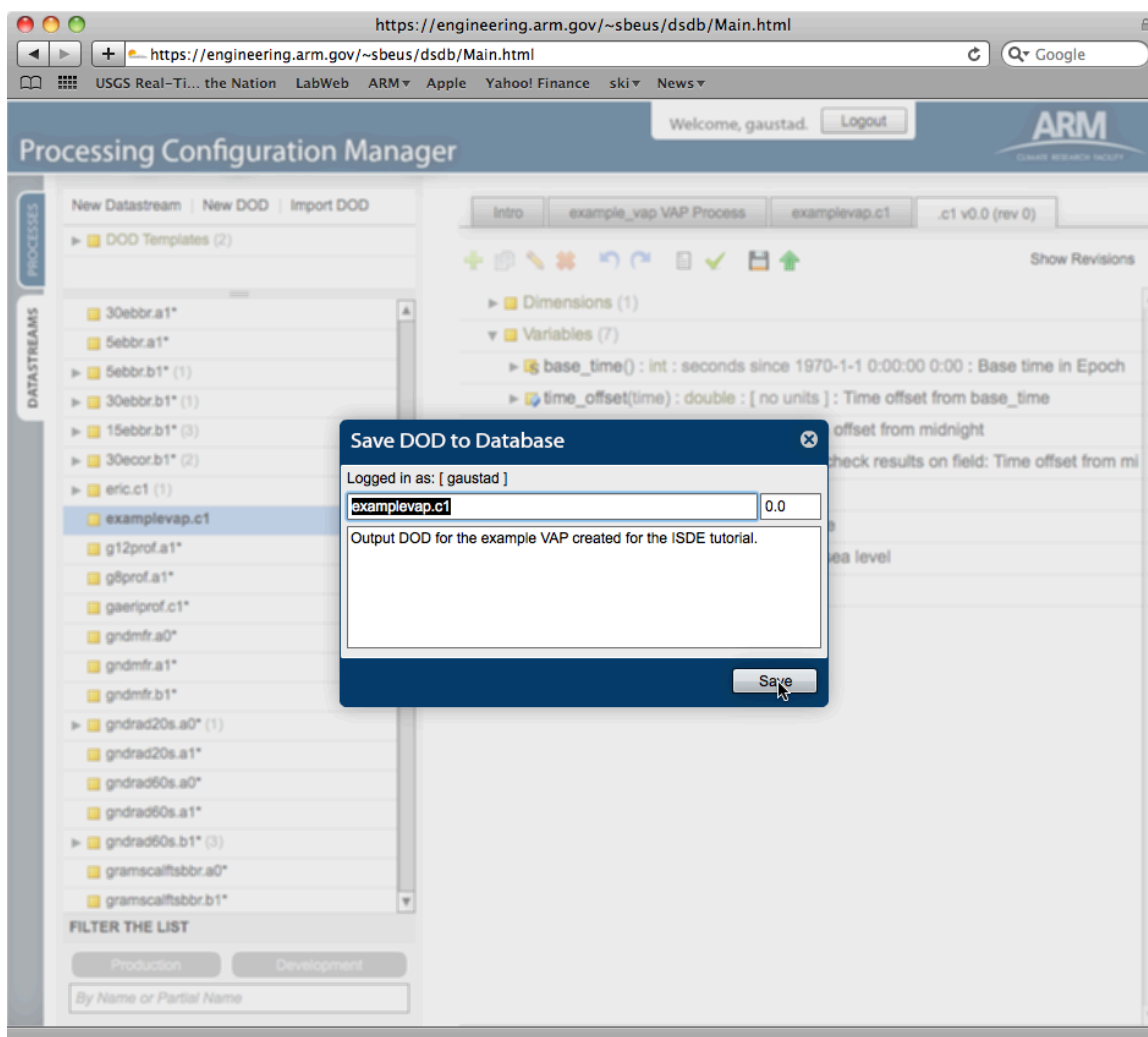

Figure 5.4. Save DOD to DSDB
- Enter the version of the DOD, and a comment describing the DOD (Figure 5.4).
Note: If an inappropriate name is selected the datastream name and level box shown in Figure 5.4 will be highlighted in red and the DOD will not be saved.
- b. Select the green plus icon located just above the dimensions to create the new element and open up the element's edit form in a third frame on the left of the PCM (Figure 5.4 shows the DOD Variable form).